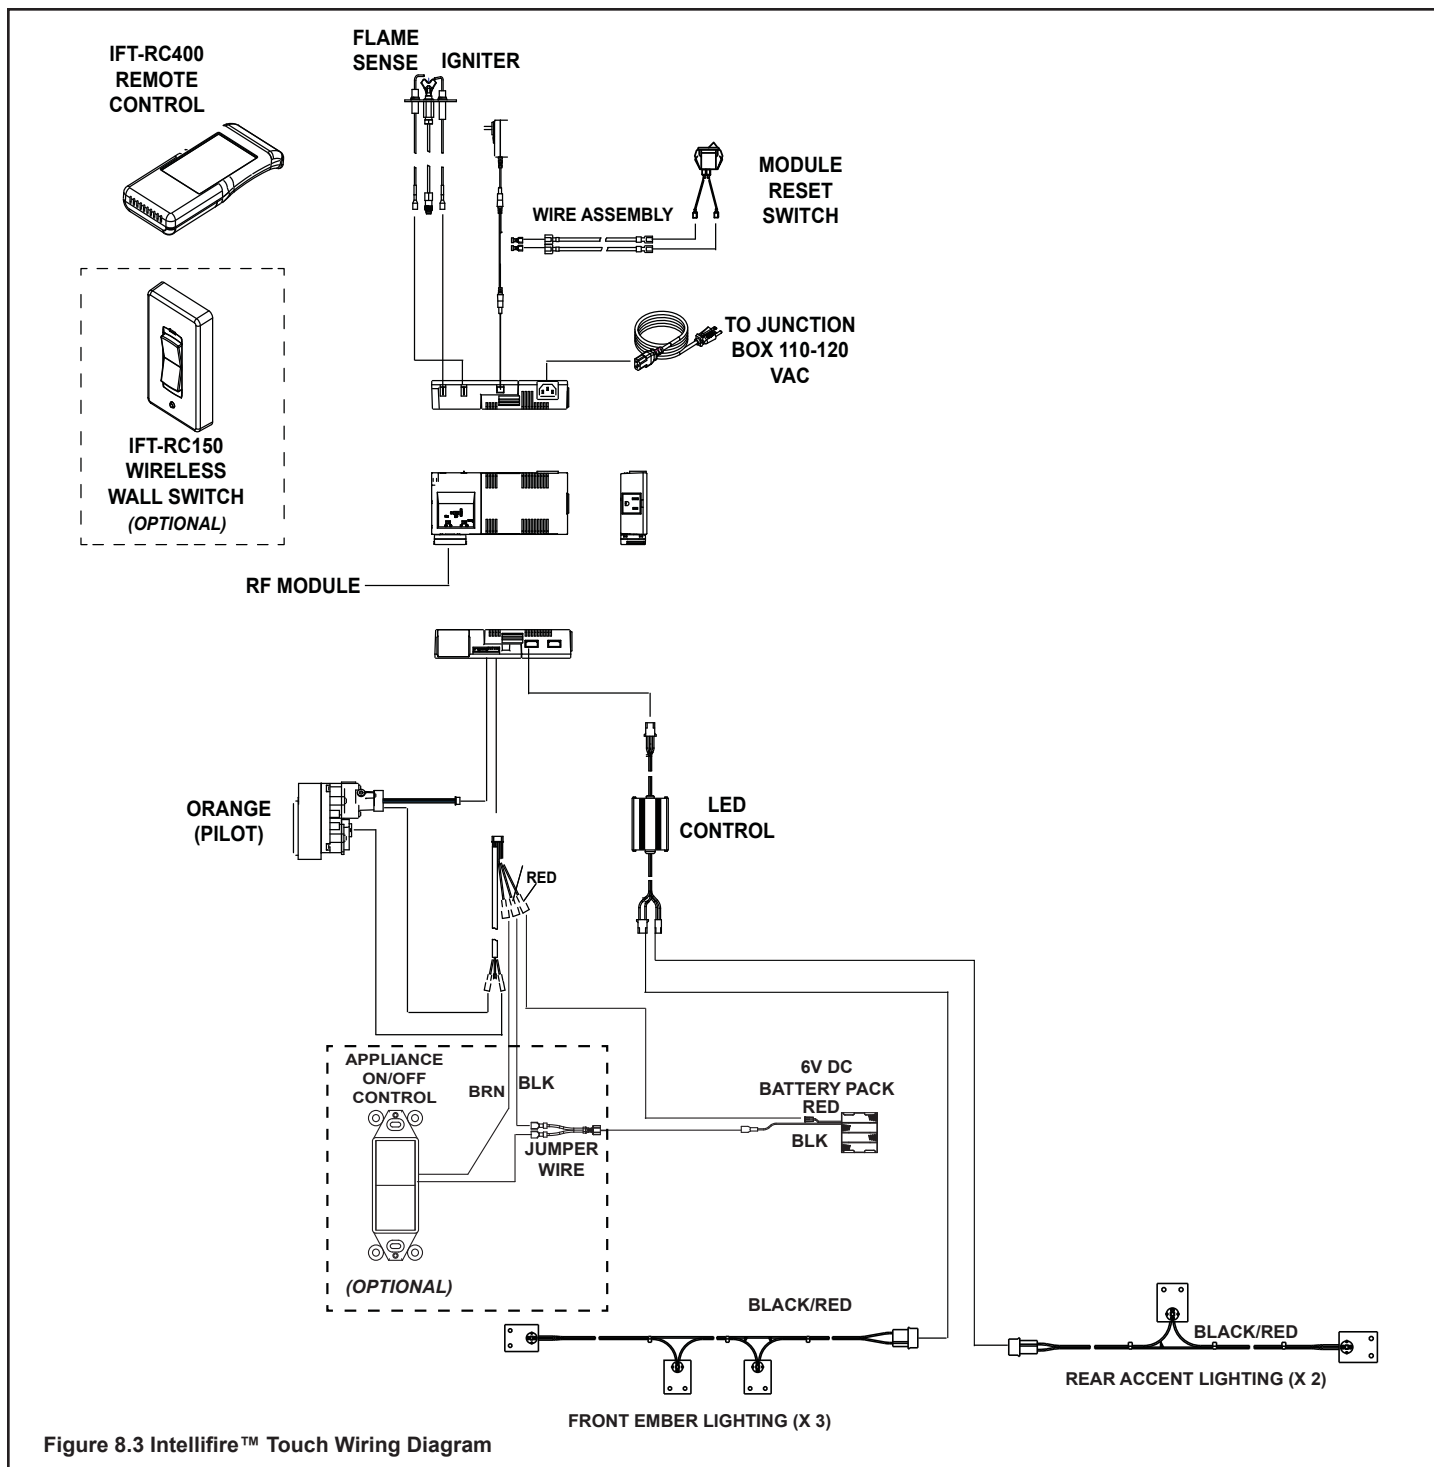

Figure 8.3 IntelliFire™ Touch Wiring Diagram
- Refer to Figure 8.3, IPI Wiring Diagram.